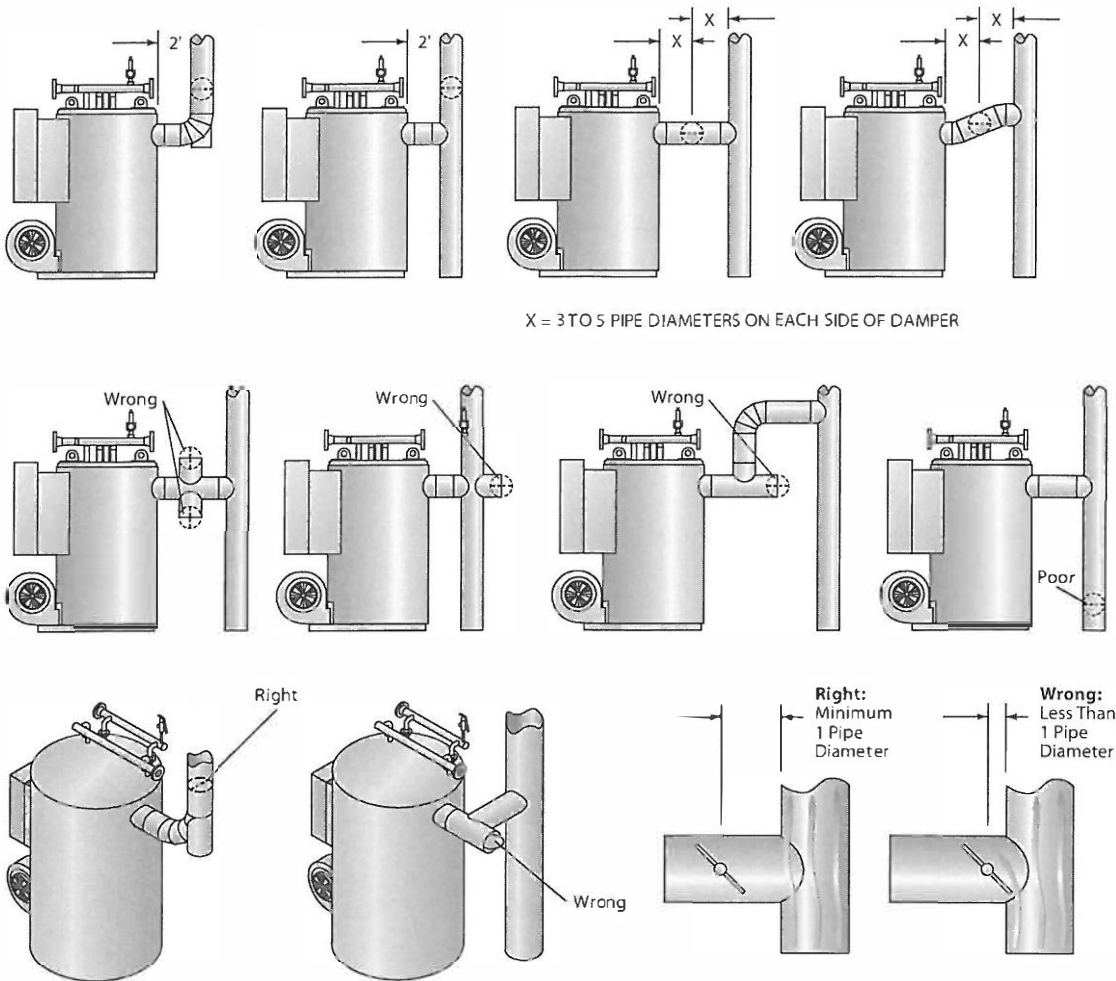

FIGURE 19 - BAROMETRIC DAMPER INSTALLATION
9. The installation of a draft regulator by the client/contractor is recommended at all installations. This will help to maintain the required draft. The placement of the draft regulator should be as shown in Figure 19.